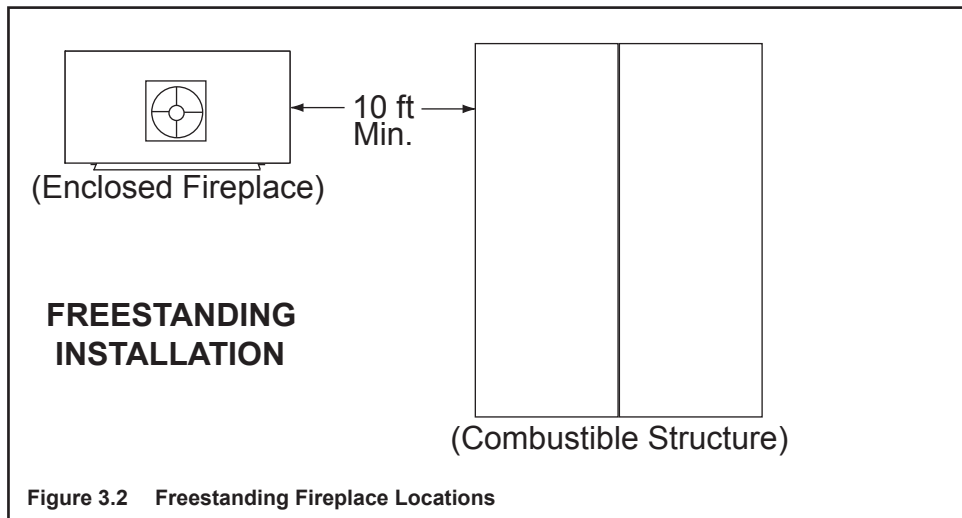

Figure 3.2 Freestanding Fireplace Locations
- **Freestanding Installations (see Figure 3.2)**
Figure 3.5 shows a typical framing (using 2 x 4 lumber) of the fireplace, assuming combustible materials are used. All required clearances to combustibles around the fireplace must be adhered to. See Figure 3.2. Any framing across the top of the fireplace must be above the level of the top standoffs.
- Minimum overall straight height is **6 ft 4 in. if the fireplace is freestanding** and a minimum of 10 ft from a combustible structure. See Figure 3.2.